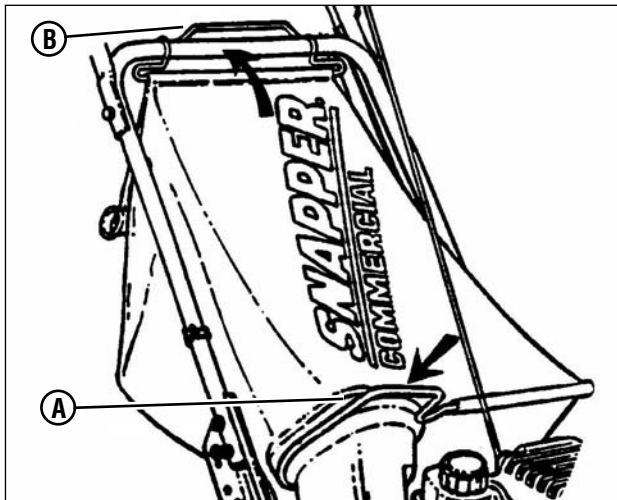

Figure 14: Installing the grass bag
2. Install the grass bag by sliding the connector (**A, Figure 14**) over the adapter flange.